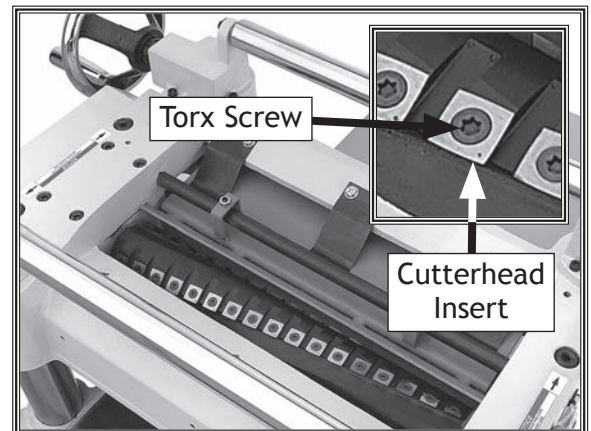

Figure 29. W1865 cutterhead inserts and Torx screws.
4. Remove any sawdust or debris from head of insert, Torx screw, and surrounding area (see **Figure 29**).